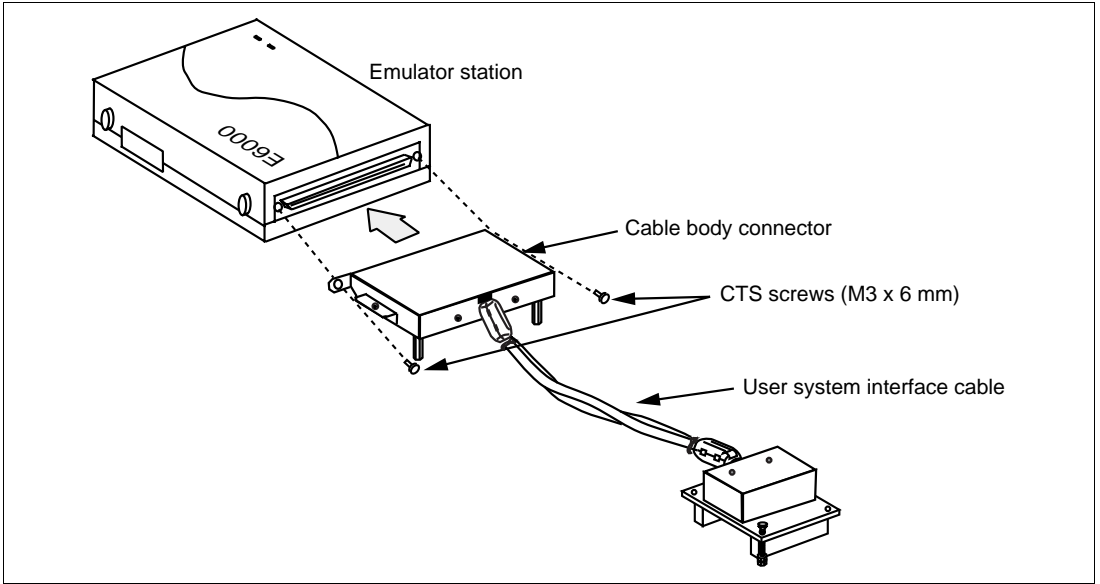

Figure 2 Connecting User System Interface Cable to Emulator Station
2. After making sure the direction of the cable body connector is correct, firmly insert the cable body connector into the emulator station socket, and fasten the emulator station with two CTS screw (M3 x 6 mm) (figure 2).